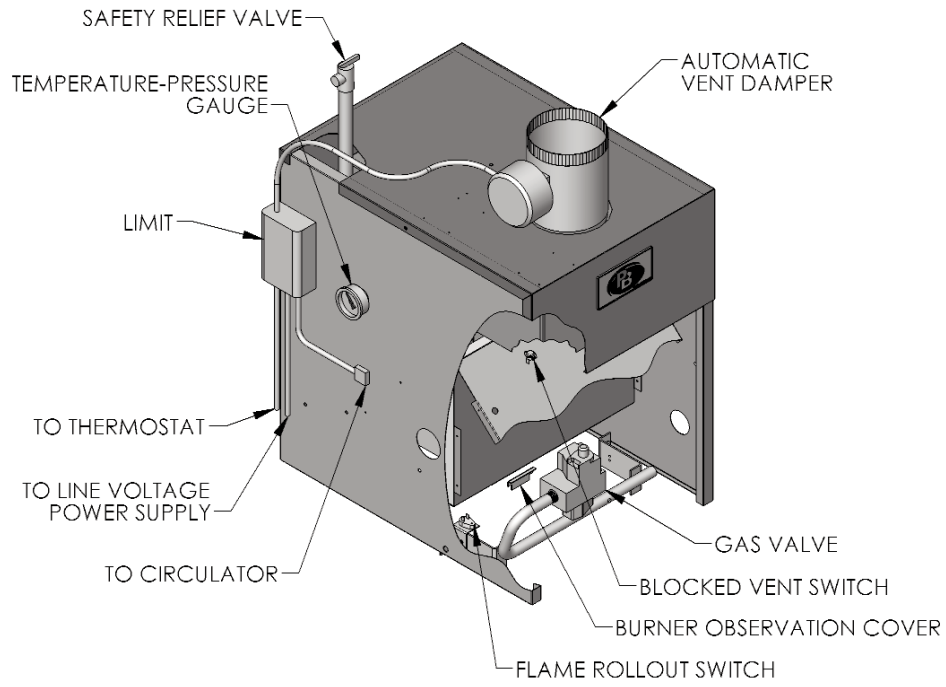

Figure 1: Control Locations
- 1. Limit.** See Figure 1. A device which automatically interrupts boiler operation when the water temperature exceeds the set point. Maximum allowable temperature is 240°F (115°C).
- 2. Flame Rollout Switch.** See Figure 1. A device which automatically interrupts boiler operation when flames or excessive heat are present in the combustion area. The control is a single use device. If the control is activated to interrupt boiler operation, do not attempt to place boiler in operation. Contact a qualified service agency.
- 3. Blocked Vent Switch (Vent Safety Shutoff Switch).** See Figure 1. A device which automatically interrupts boiler operation when there is a blockage in the vent pipe or chimney. The control is a manual reset device. The control is located on the draft hood relief opening. If the control was activated to interrupt boiler operation, do not attempt to place boiler in operation. Contact a qualified service agency.
- 5. Gas Valve.** The gas valve monitors pilot flame and regulates gas flow to the burners and pilot. See Figure 1.